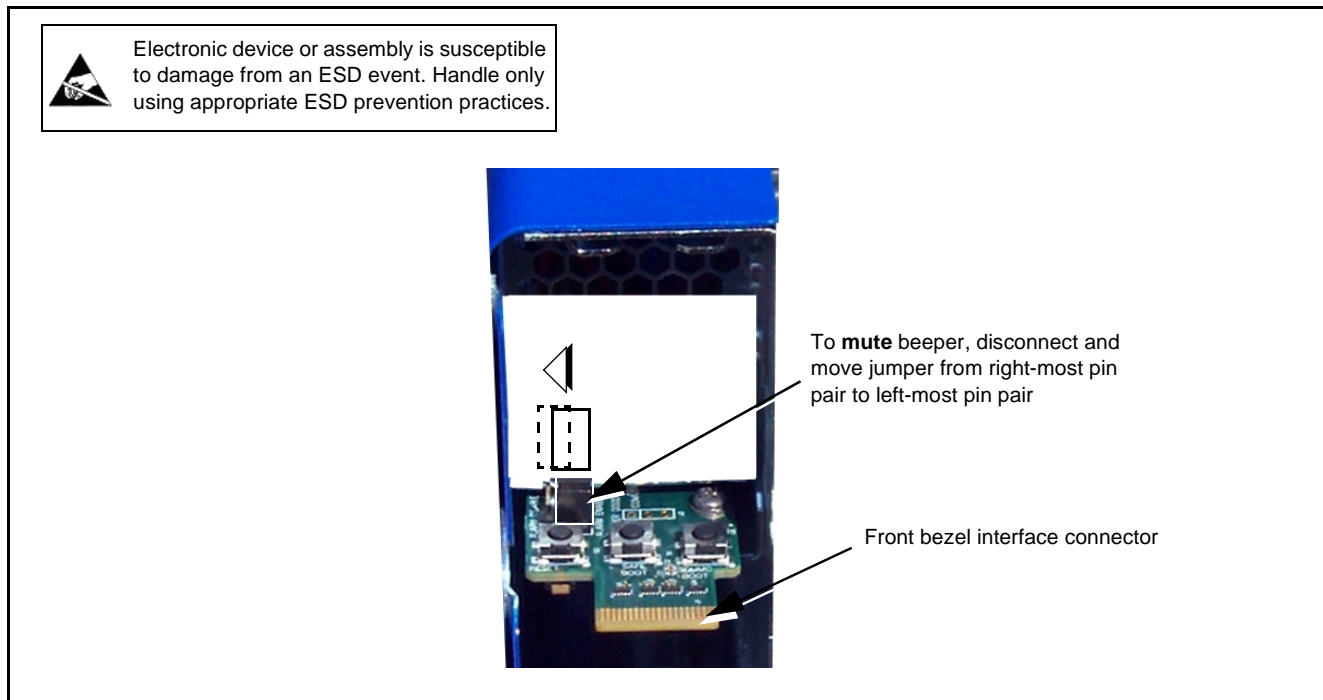

Figure 2-10 Mute Jumper
2. (See Figure 2-10.) With device on side such that front bezel interface PCB is oriented as shown, move the jumper from the Default position to the Mute position.